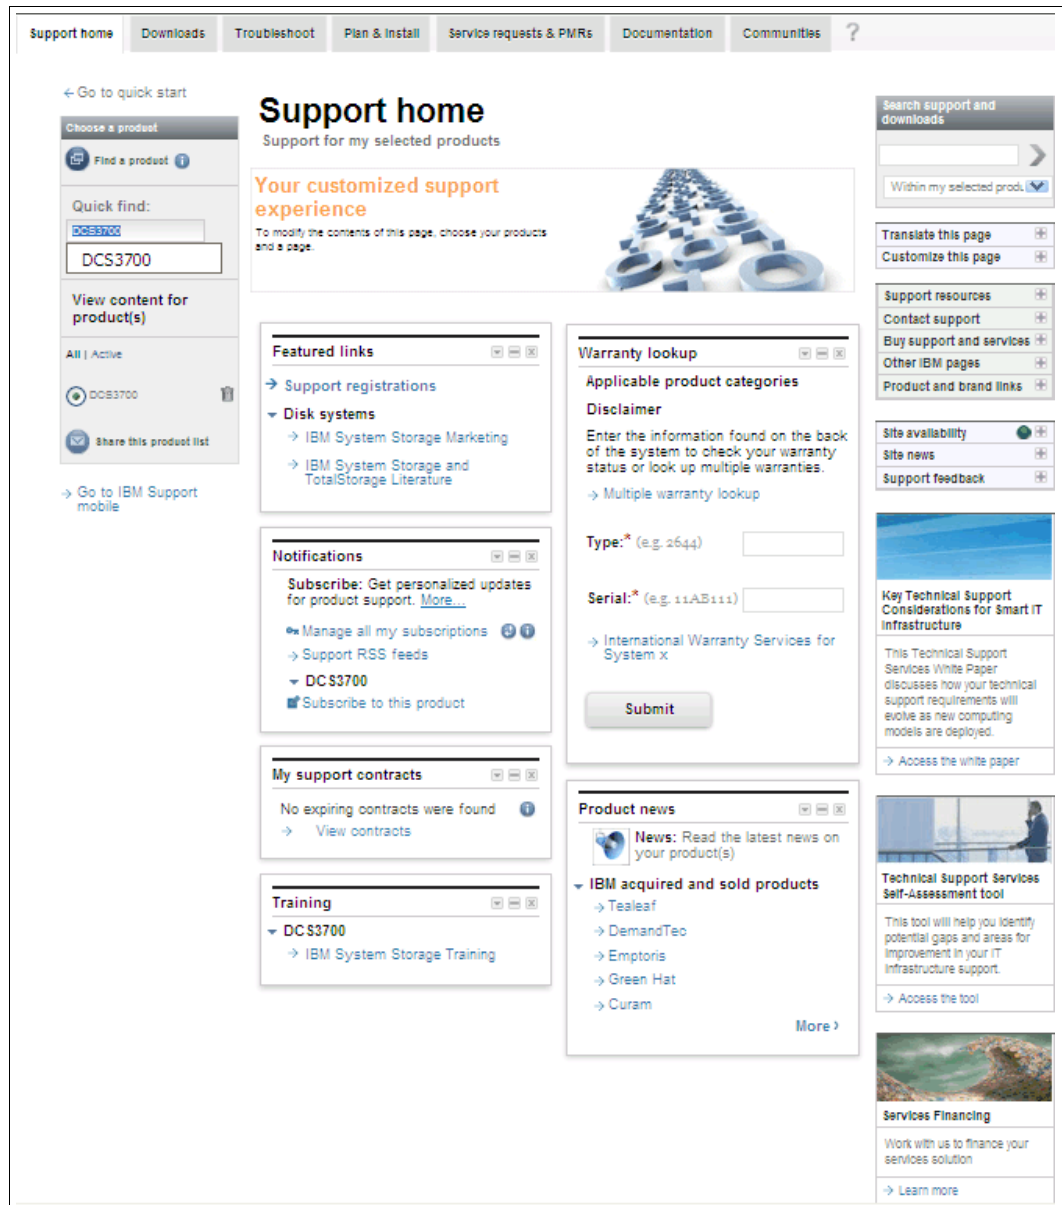

Figure A-2 Search for DCS3700
2. Enter DCS3700 in to the Quick Find box and press Enter. A window similar to Figure A-2 opens.